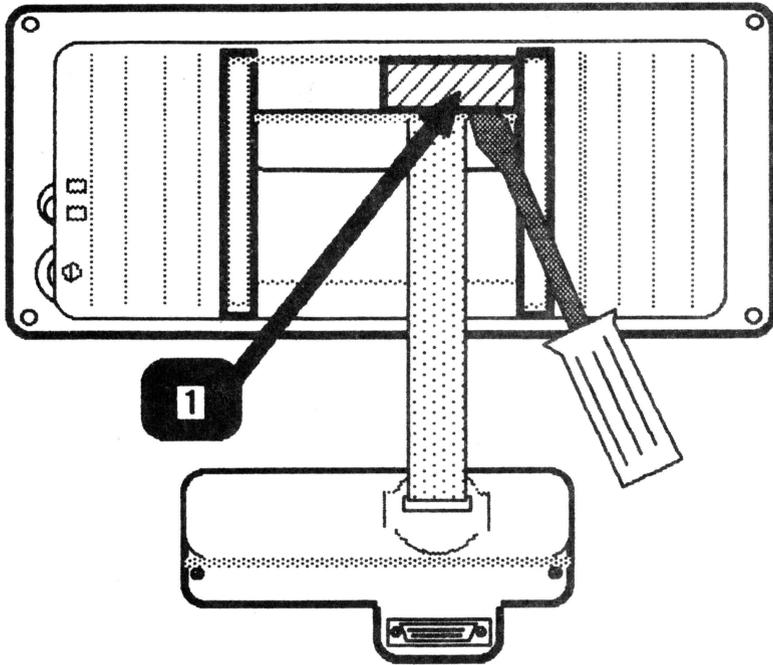

FIGURE 10
1. Place the Flat Panel Display face down on a protective foam pad and orient it as shown in Figure 10.
2. Use a flatblade screwdriver to pry off the flat panel cable brace (Figure 10, #1).
8. Snap the plastic cable brace back into place on the back of the flat panel. (See Figure 10, #1.)